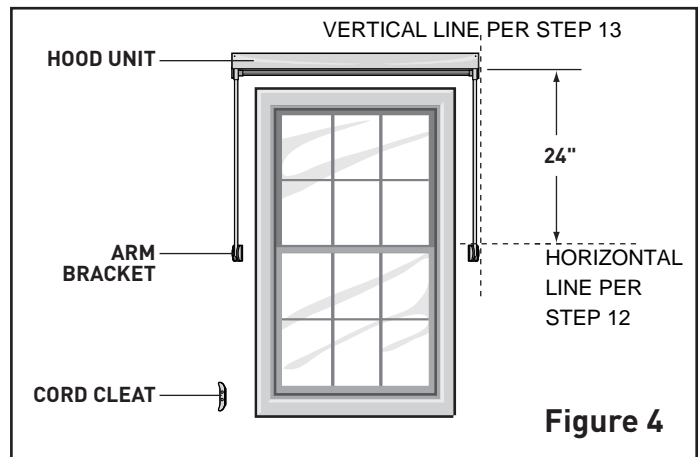

Figure 4
12. To determine the location for the Arm Bracket measure down 24" from the bottom edge of each Hood Unit Wall Bracket and mark the horizontal as shown in Figure 4.
13. Using a straight edge aligned with the edge of the Hood Unit, ensure the straight edge is level and mark the vertical where it crosses the horizontal as shown in figure 4. Repeat for both sides of awning.
17. Determine location of the Cord Cleat on the wall and mark the hole locations. For wood, vinyl, stucco or aluminum siding pre-drill the hole locations using a 1/8" drill bit. For brick or concrete walls, using a 1/4" masonry drill bit, drill holes approximately 1-1/2" deep. Insert plastic wall anchors into holes, and using a hammer, tap flush with the surface of the concrete. Install the Cord Cleat using the (#8 x 1") flat head screws provided. For best results, install the Cord Cleat near the bottom left corner of your window as in Figure 4.